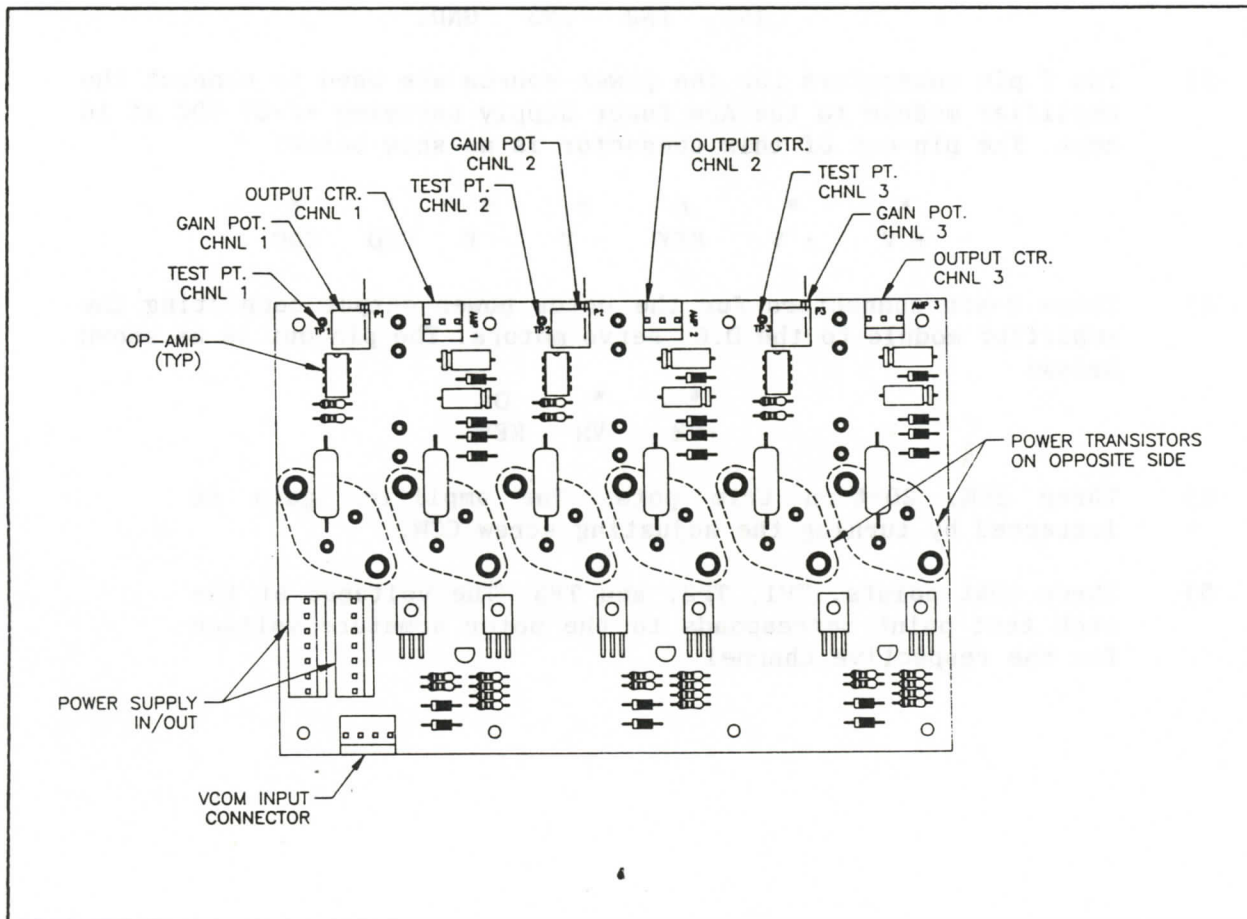

FIGURE 7-3 D.C. Amplifier Module
The D.C. Amplifier Module as shown in Figure 7-3 contains three (3) separate amplifiers, each supplied with  $\pm 26$  VDC. The signal to each amplifier is  $\pm 10$  VDC. The output is the motor voltage of  $\pm 20$  VDC. at 2 amperes each.